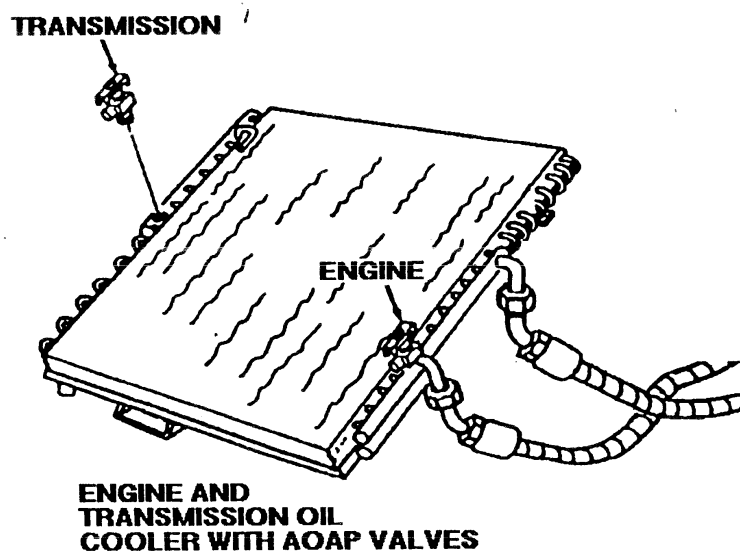

FIGURE 3-4
C. Because HMMWVs weren't part of AOAP, sampling valves aren't installed on vehicles with serial numbers 100,000 and above. Units may install sampling valves, NSN 4820-00-845-1096, at their own cost. Valves are installed on the engine and transmission oil cooler. (see figure 3-4)